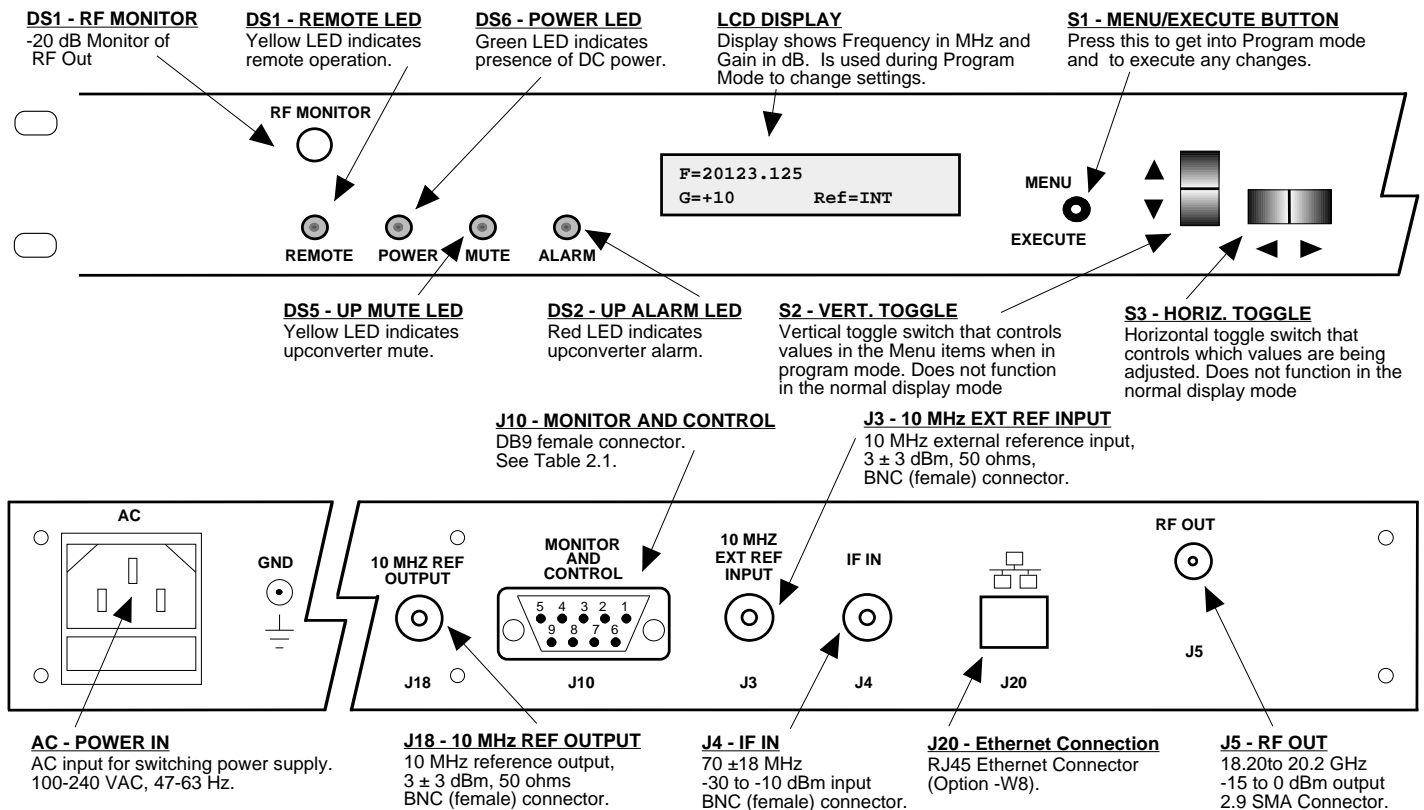

Figure 2.3 Front & Rear Panel Controls & Indicators
2.3 Front & Rear Panel Controls and Indicators - Figure 2.3 shows the front and rear panel controls and indicators.
1. Connect a -30 dBm to -10 dBm, 70MHz signal to IF IN, J4 (Figure 2.3, page 9)
7. Be sure DS6 (green, DC Power) is on and DS2 (red, Alarm) is off (Figure 2.3, page 9).